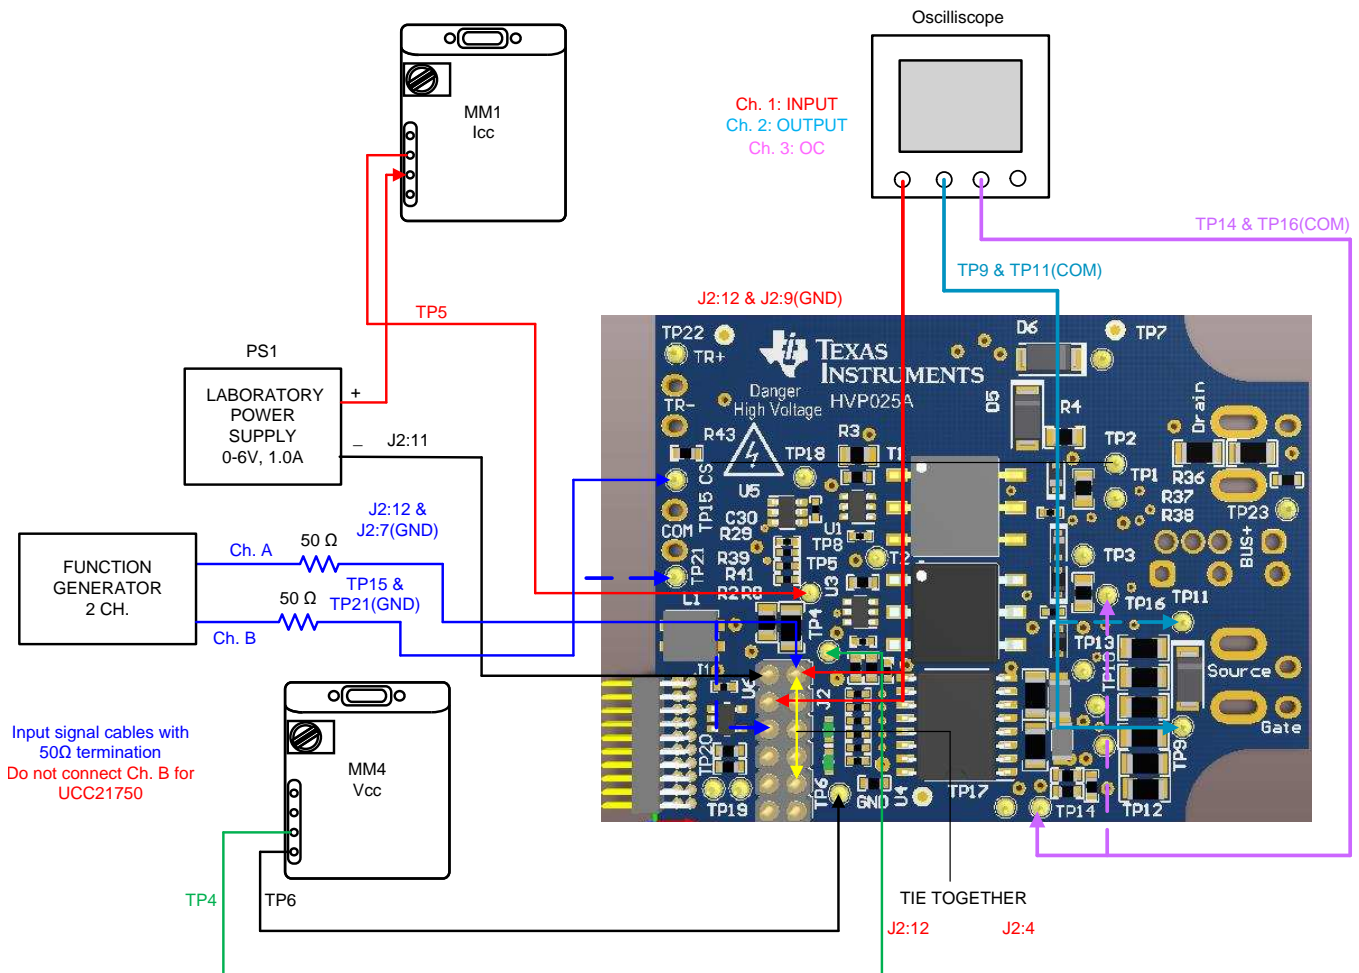

Figure 10. Overcurrent and Short Circuit Test Setup
The test setup is shown in Figure 10. For UCC21750 there is no need to connect channel B (Ch.2) of function generator.
Oscilloscope settings for UCC21710 and UCC21732 based EVMs are shown in Table 7 and in Figures 10 through 12.
5. Compare waveforms with typical screen shot shown in Fig. 10